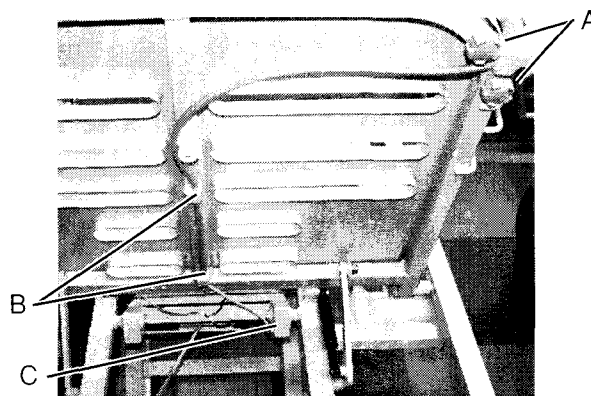

Figure 9
9. Put the flexible arm pendant support into place to the left or right of the Head Section structure and fix it using the two adjustment knobs provided (A) (see figure 9).
10. Using the medium head Phillips screwdriver, attach the cable and cable sleeve onto the Head Section structure using the two appropriate cable clamps (B) (see figure 9) and the provided screws.
11. Attach the chute (C) to the length of the elevation arm on the right side of the bed as indicated in figure 9